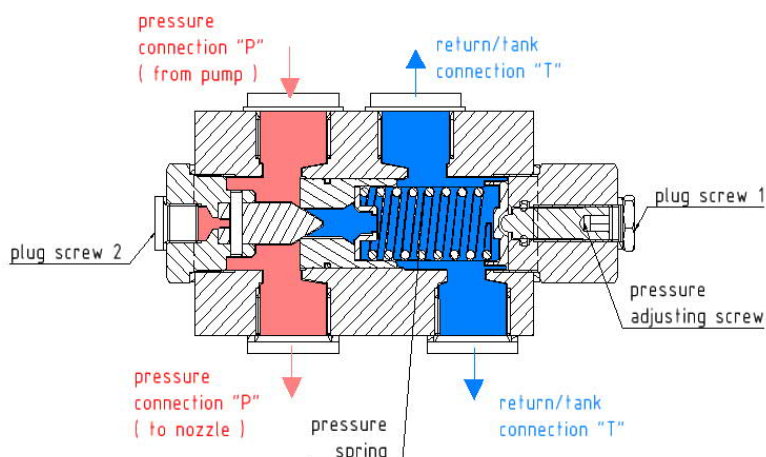

Fig.1 Operating principle
- Should there be no manometer attached, please remove the plug screw 2 and fit one to the manometer connection G1/4" (Fig. 1).
- hp overflow valves have been factory-set to the lowest possible pressure level of the respective pressure stage. In order to set the desired operating pressure, first remove the plug screw 1 (see Fig.1) to reveal the adjusting screw beneath.
- Now switch on the unit's pump and turn the adjusting screw to the right to adjust the operating pressure to the desired setting. For a reading of the set value, Section 4.13 of DIN EN 12514-2, Issue 2000 calls for a manometer to be attached to the unit. Should there be no manometer attached, please remove the plug screw 2 (see Fig.1) and fit one to the manometer connection.